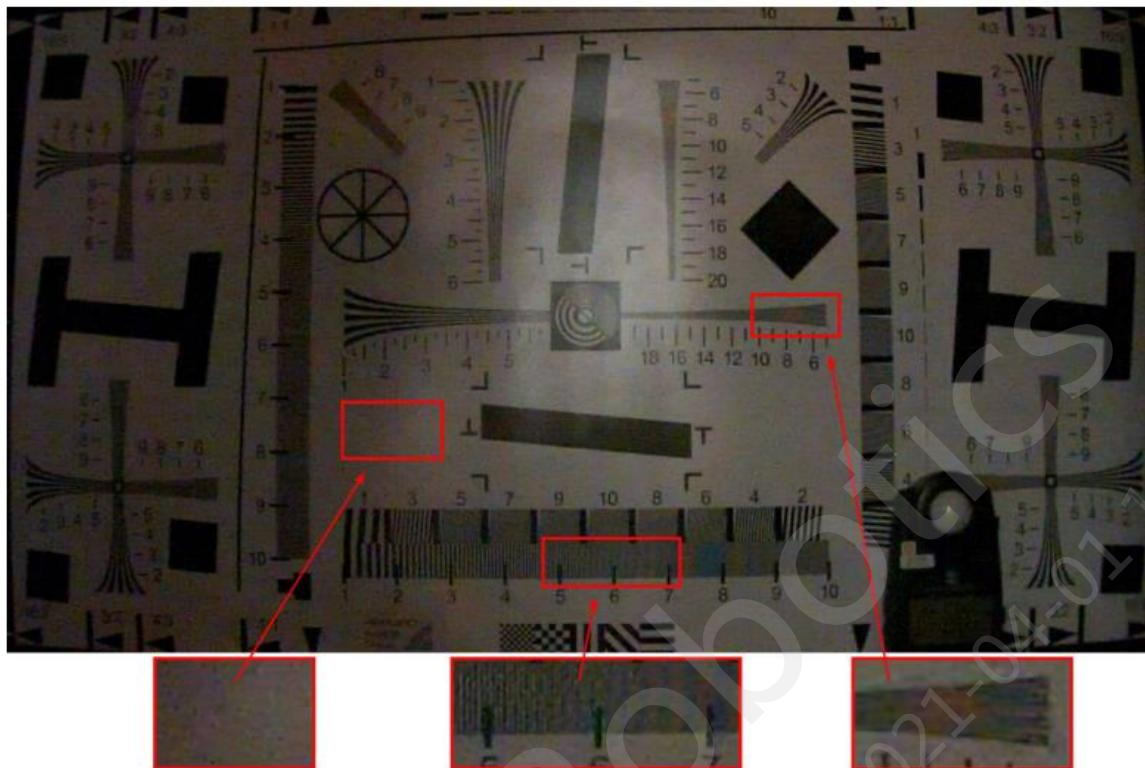

Figure 3.15-15 Image at maximum gain and NP\_offset = 50.
3. Now increase the offset to a point where the false edges in the flat areas are reduced without degrading resolution, as seen in Figure 3.15-15. Also ensure that most of the checker pattern has been reduced, making it less visible. Note that false color in the high frequency regions tends to increase.